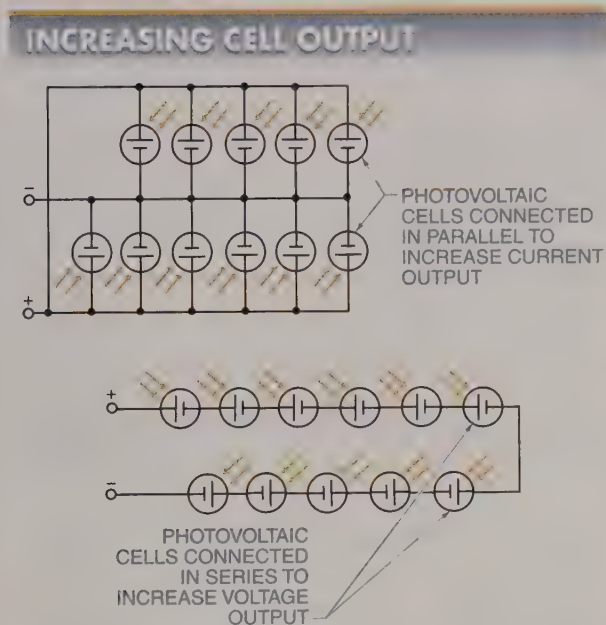

Figure 20-15. Photovoltaic cells are connected in parallel to increase current output or connected in series to increase voltage output.
Photovoltaic cells are rated by the amount of energy they convert. Most manufacturers rate photovoltaic cell output in terms of voltage (V) and current (mA). Photovoltaic cells produce a limited amount of voltage and current. For example, each photovoltaic cell may produce up to 0.6 V. To increase the voltage output, cells are connected in series. In addition to the maximum voltage, each photovoltaic cell may produce up to 40 mA of current. To increase the current output, cells are connected in parallel. To increase both voltage and current, the individual cells are connected both in series and parallel. See Figure 20-15.